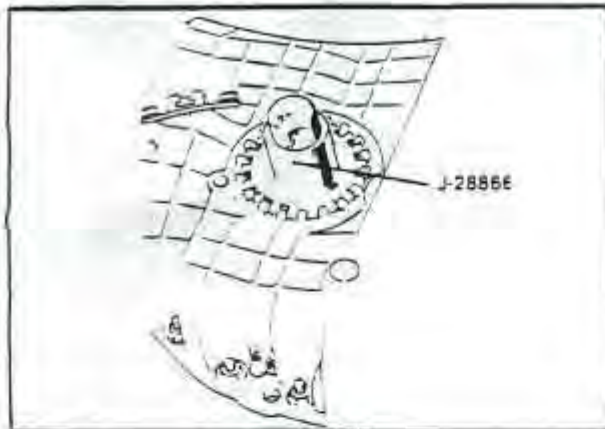

Fig. 78 SIDE GEAR TOOL
8. Remove the lock plates securing the differential adjusting nuts to the final drive half-cases. Remove the adjusting nuts using Tool J28866. Fig. 78
- e. Tighten the differential carrier adjusting nut on the opposite side of the ring gear until all play is removed from the carrier bearings. Use Tool J28866 to turn the adjusting nut. Fig. 78